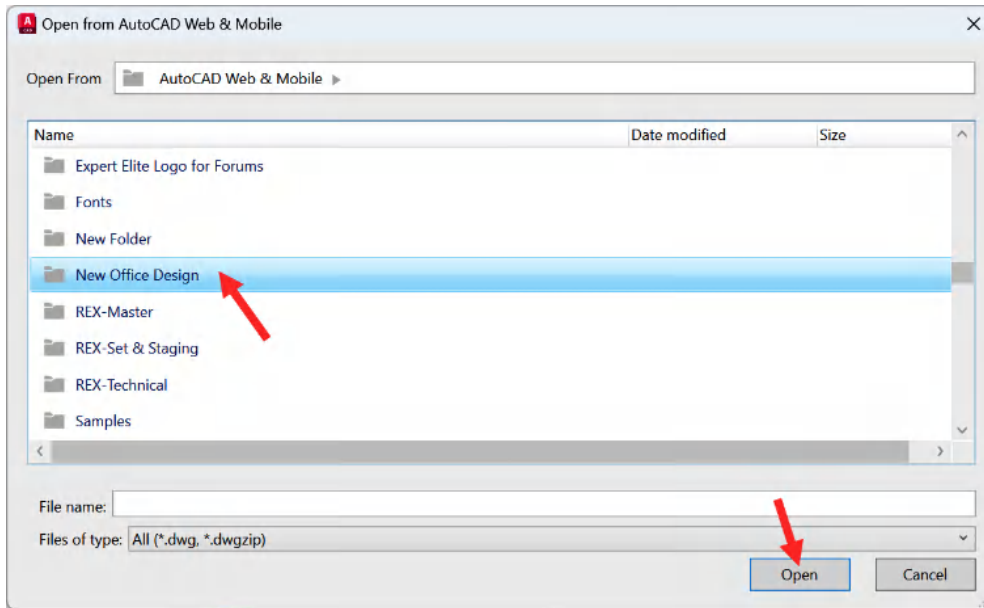

Figure 13.13: The Open from AutoCAD Web & Mobile dialog box
5. In the **Open from AutoCAD Web & Mobile** dialog box, select the recently created New Office Design folder and click on **Open**, as shown in *Figure 13.13*.